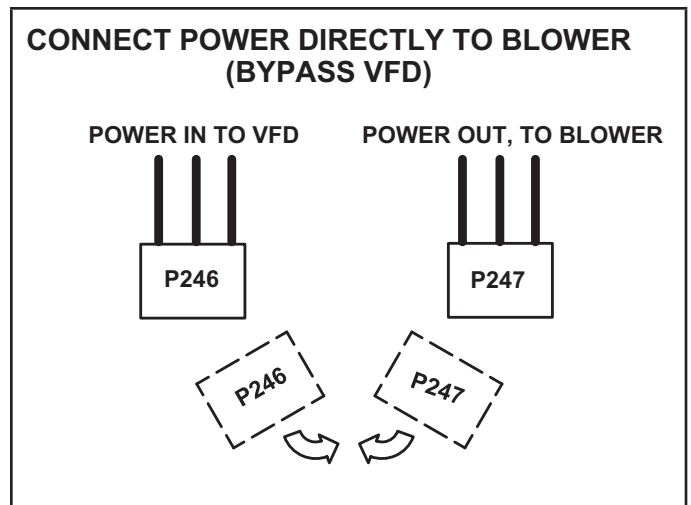

FIGURE 51
- 4 - Connect P246 to P247. See FIGURE 51.